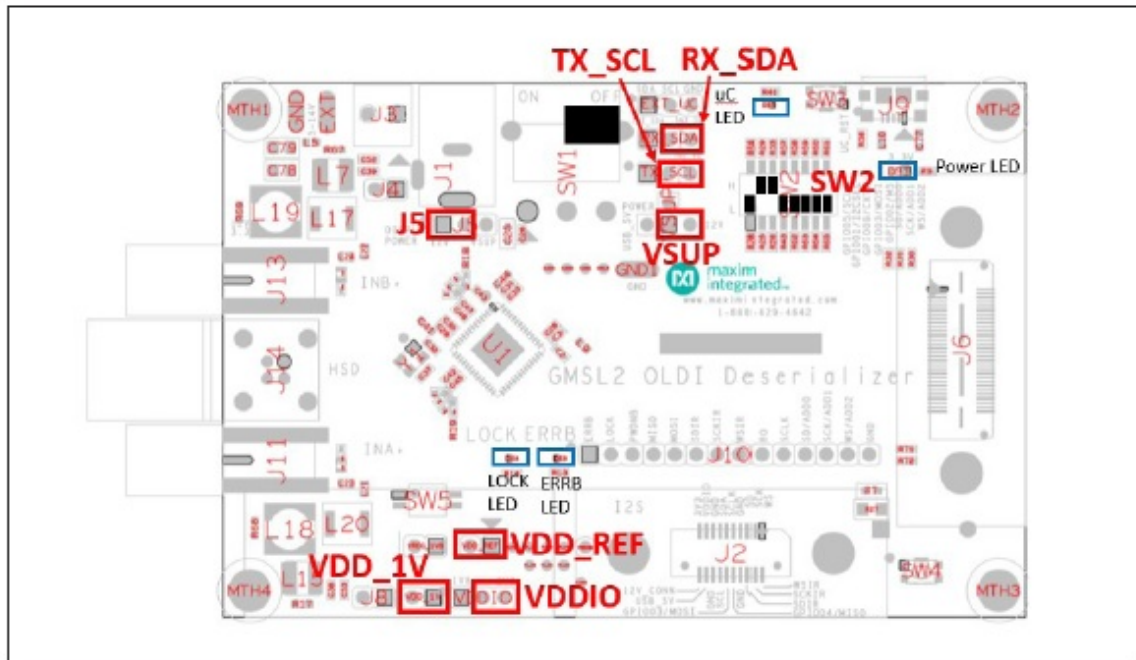

Figure 3. Deserializer Evaluation Board Default Jumper and Switch Positions
2. Verify that the on-board jumpers on the deserializer board are in their default positions (Figure 3) with SW1 off.
3. Configure SW2 as shown in Figure 3 to set deserializer address to 0x90, COAX mode, and I2C control.